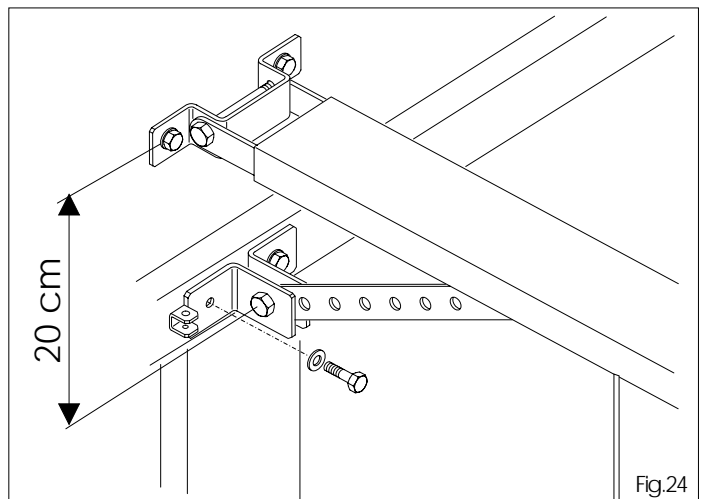

Fig.24
- N.B.: The distance between drive bracket and sliding rail bracket must not exceed 20cm (max 30°) (fig.24).**
- 6.22 Check the position, drill and secure with suitable screws (fig. 24).